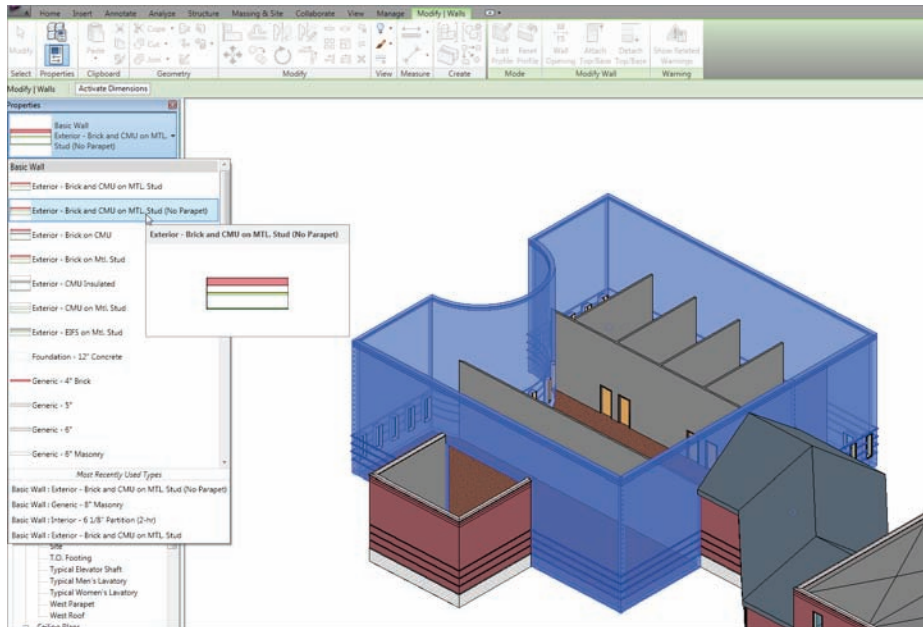

FIGURE 7.38 Changing the walls to Exterior - Brick And CMU On MTL. Stud (No Parapet)
2. Select the west wing exterior walls, as shown in Figure 7.38.
3. In the Type Selector, select Exterior - Brick And CMU On MTL. Stud (No Parapet), as shown in Figure 7.38.